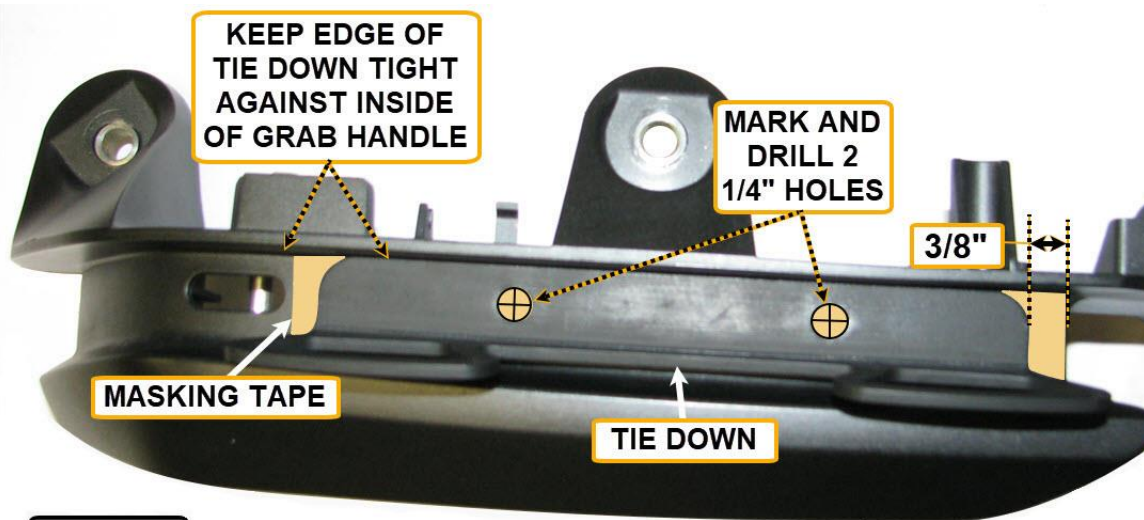

FIG. 6
7. PLACE A PIECE OF MASKING TAPE ON THE SURFACE SHOWN IN FIG. 6.
8. USE FIG. 6 TO MEASURE AND MARK THE HOLES TO DRILL IN THE LEFT GRAB HANDLE.